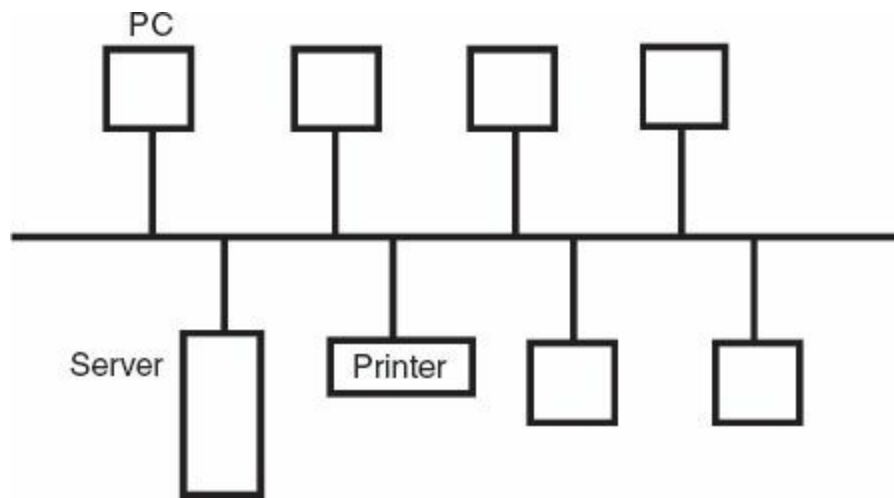

FIGURE 11.3 Bus topology.
- Bus topology: All computers in this topology are connected to a single cable as shown in Fig. 11.3. Ethernet is the most popular bus topology. The advantage of the bus topology is the easiness of adding new PCs with minimum cost to the network. The disadvantage of bus topology is that if the bus cable breaks down, all the PCs on the bus will be affected.